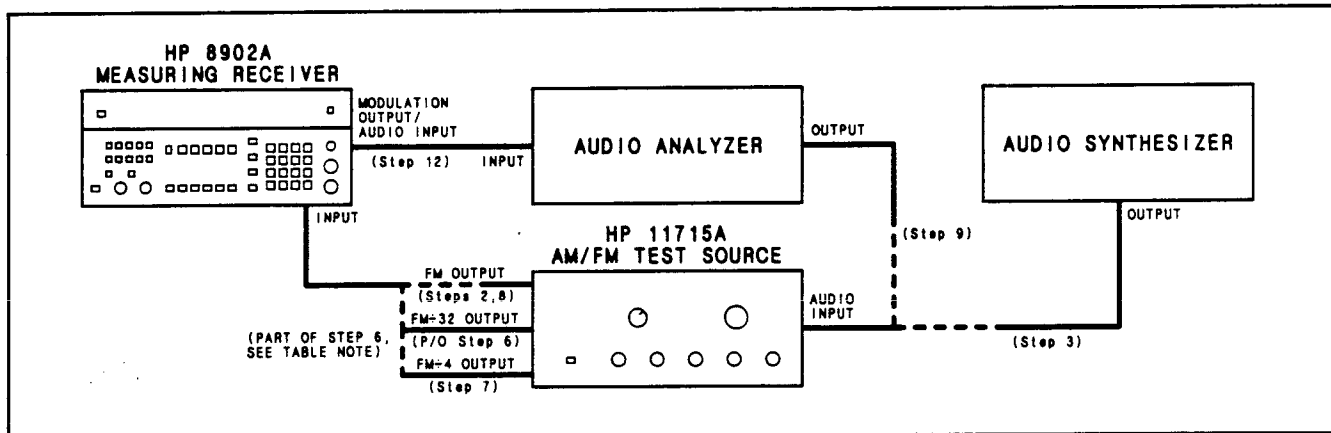

Figure 4-3. ΦM Performance Test Setup
2. On the AM/FM test source, set the test mode to FM. Connect its FM output to the Measuring Receiver's INPUT. (See Figure 4-3.)
3. Set the audio synthesizer to 200 Hz at -10 dBm. Connect its output to the audio input of the AM/FM test source. (See Figure 4-3.)
* Connect the FM $\div$ 32 output of the AM/FM test source to the Measuring Receiver's INPUT to make this measurement. (See Figure 4-3.) Press AUTOMATIC OPERATION, then MHz to retune the Measuring Receiver. If the resolution is not 0.001 rad, press Φ M again.
7. On the Measuring Receiver, key in 3.1 SPCL to set the IF to 455 kHz. Press FM. On the AM/FM test source, connect the FM $\div$ 4 output. (See Figure 4-3.) Set the audio synthesizer frequency as shown in the following table. Set the Measuring Receiver High Pass Filter as shown in the table. Set the audio synthesizer level to give the FM deviation shown in the table. After setting each FM deviation, press Φ M. For each setting, the Measuring Receiver's display should read between the limits indicated in the table.
8. Connect the FM output of the AM/FM test source to the Measuring Receiver's INPUT. (See Figure 4-3.) Press AUTOMATIC OPERATION on the Measuring Receiver.
9. Set the audio analyzer's oscillator to 1 kHz. Connect its output to the audio input of the AM/FM test source. (See Figure 4-3.)
12. Connect the audio analyzer's input to the Measuring Receiver's MODULATION OUTPUT/AUDIO INPUT. (See Figure 4-3.) Set the audio analyzer to measure the distortion on the 1 kHz signal at the MODULATION OUTPUT/AUDIO INPUT. Set the high-pass filter on the audio analyzer to 400 Hz. The distortion should be 0.1% (–60 dB) or less.